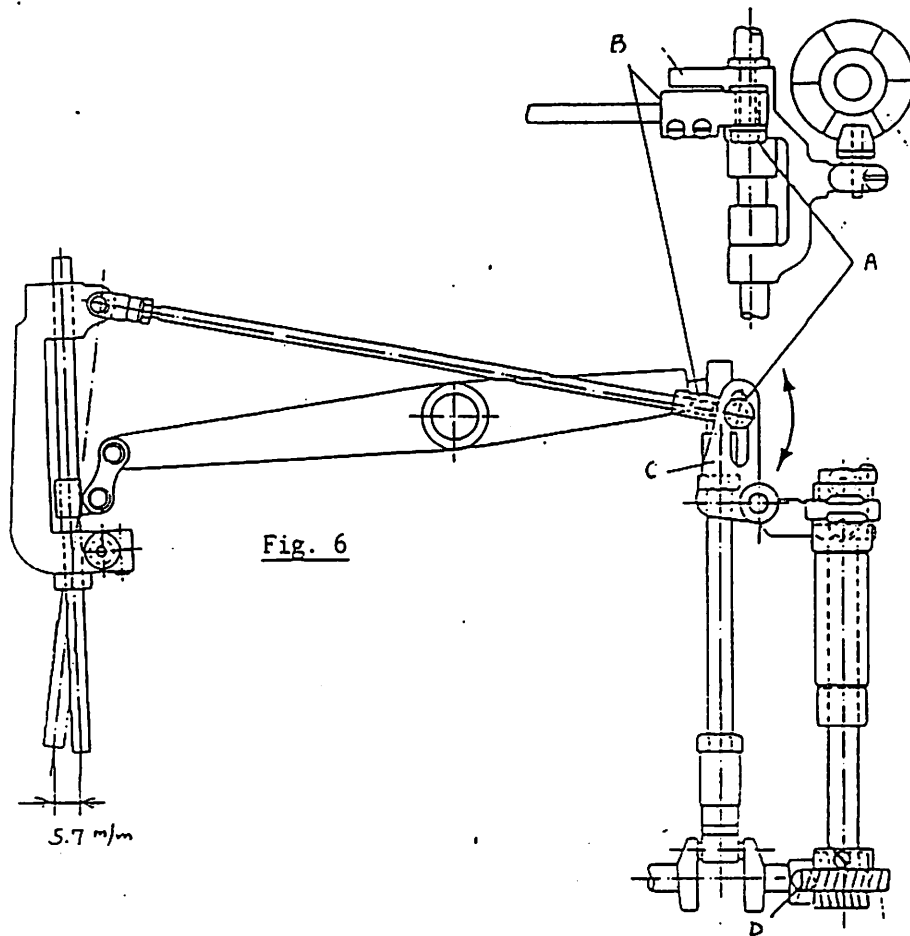

Fig. 6
7) Adjustment of Zig-Zag ratio (Fig. 6)